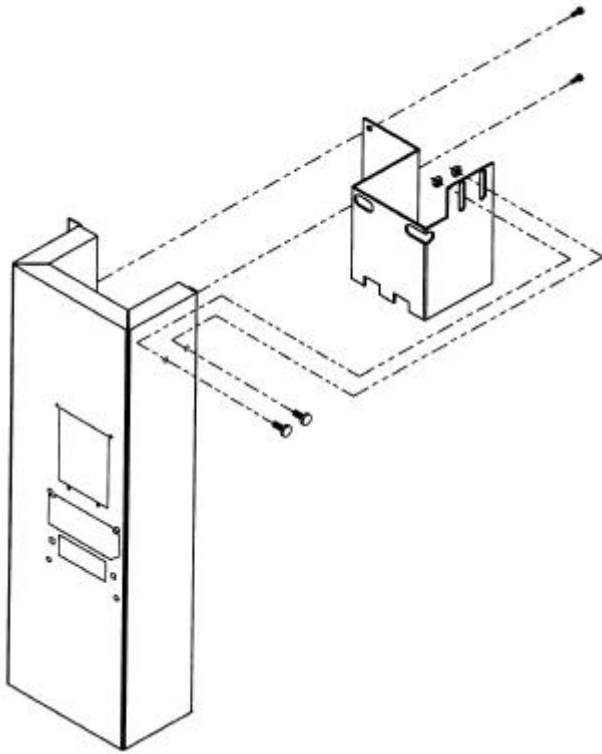

FIGURE 3
3. Install the Validator Filler Plate Back Up Bracket by placing the bracket over the four pem studs securing the Validator Filler Plate and the two carriage bolts referenced in step 2. (See figure 3, page 3.) Slide bracket down as far as it will go.